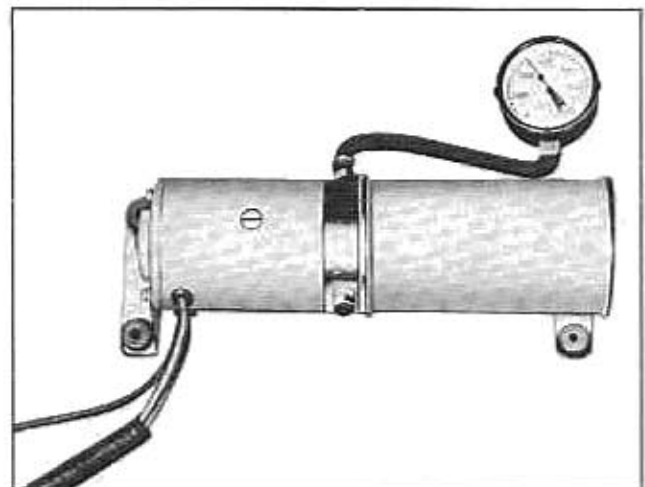

Fig. 7-61 Checking Pump Pressure
- Install plug in one port, and pressure gauge in port to be checked (Fig. 7-61).